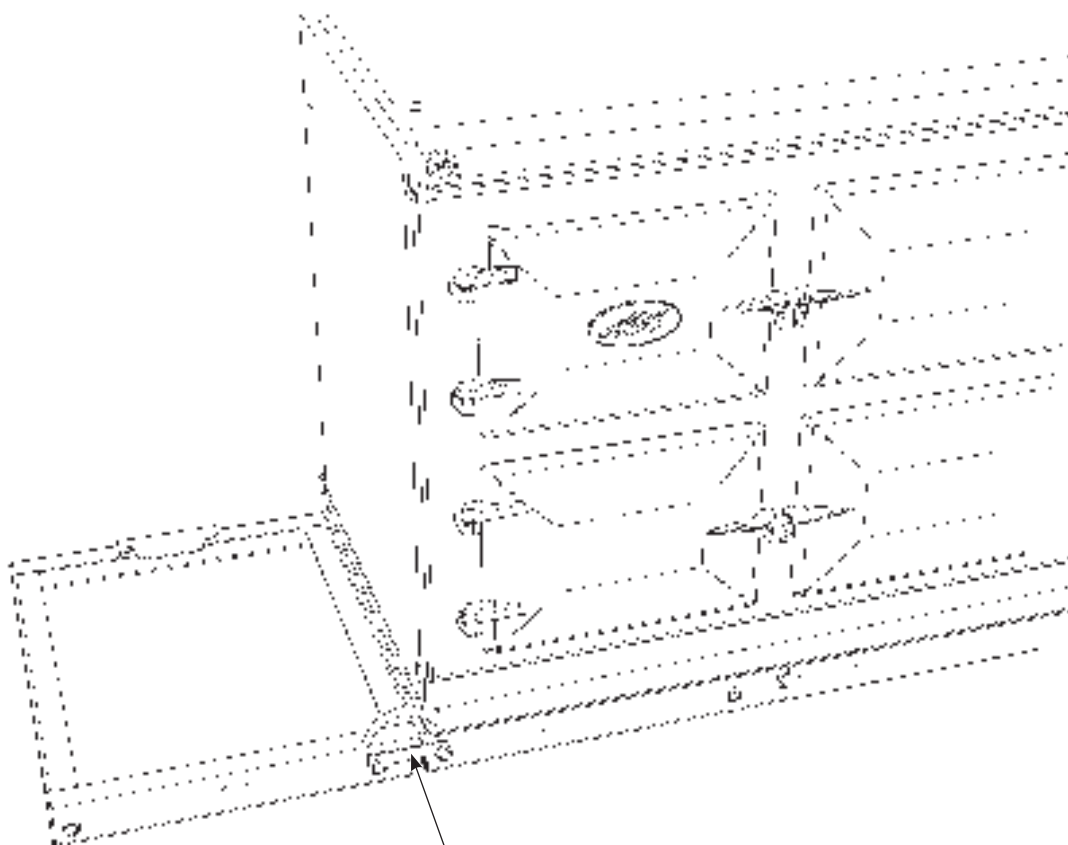

Fig. 5.6
5. Front jointing bracket can now be hooked into place over the two pot magnets. This will latch the two plinths together. (**Fig. 5.6**)